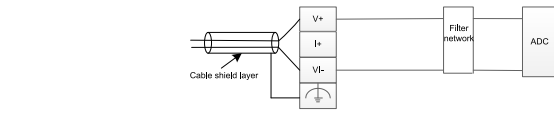

Figure 4.1 Wiring for voltage input
- For voltage input, use V+ and VI- for input, as shown in figure 4.1, and ensure the voltage input is within the range.